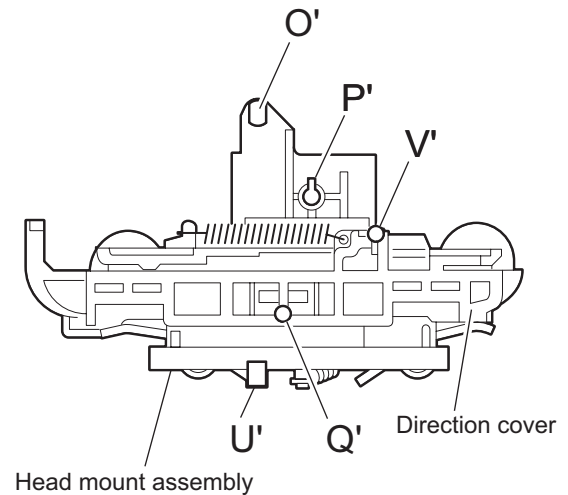

Fig.11
2.2.6 Reattaching the Play/ Record & Clear head (See Fig.11~13)
- (1) Reattaching the head mount assembly.
- b) Fit the bosses **O'**, **P'**, **Q'**, **U'** and **V'** on the head mount assembly to the holes **P** and **V**, the slots **O**, **U** and **Q** of the mechanism sub assembly (See Fig.11 to 13).